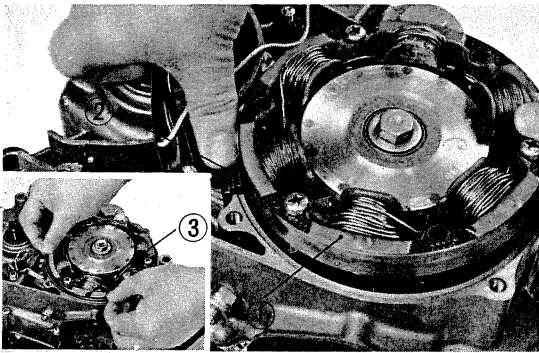

Fig. 80 Generator installation
- 4) Mount the A.C. generator. First install the cord grommet, mount the generator, and then align the screw mounting holes. (Fig. 80)